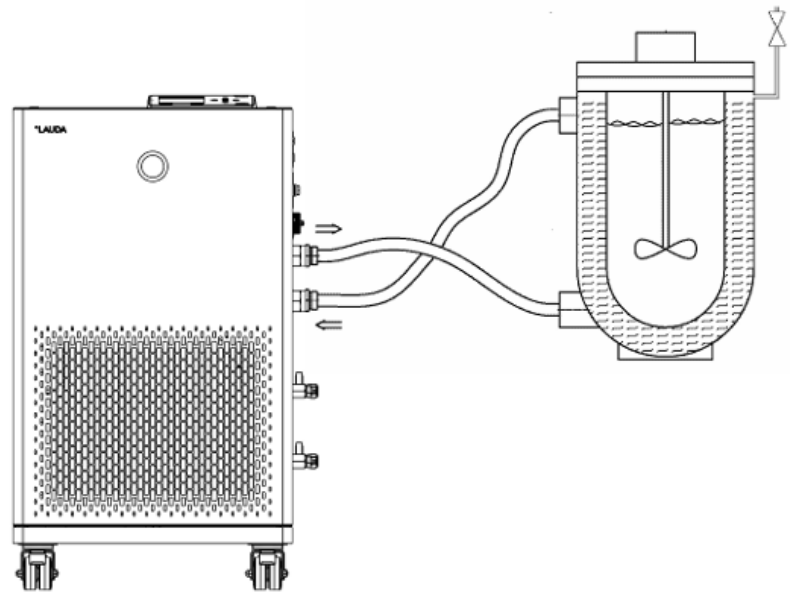

Fig. 16: Connection diagram with vent valve
- Depending on the type of application, a vent valve can significantly simplify the aeration process. The vent valve must be located at the highest point of the circuit (Fig. 16).
The external application must be connected according to the sketch (Fig. 16) so that gas/vapor bubbles can be removed from the system and undisturbed operation is possible. The outflow of the pump must be connected to the lower connection of the application. The return line to the pump connector must be connected to the top connection of the application. The application is thus flowed through from bottom to top.